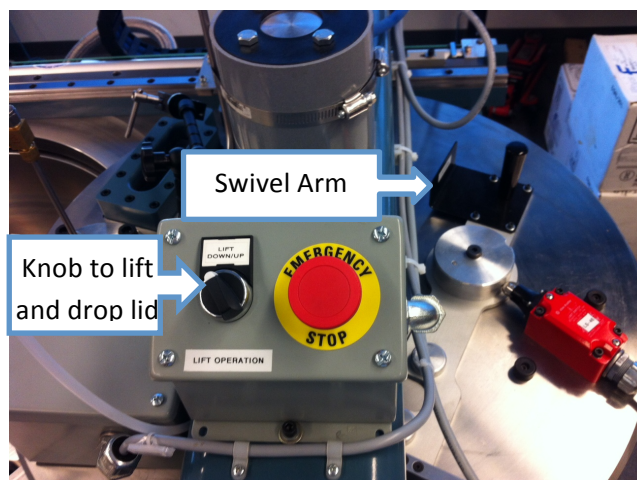

Figure 8: Close Lid
6. Close the chamber lid: Slide lid over the opening, place alignment pins. Turn swivel arm located on top of lid and turn the knob on the lift operations panel to the down position as shown in figure 8.